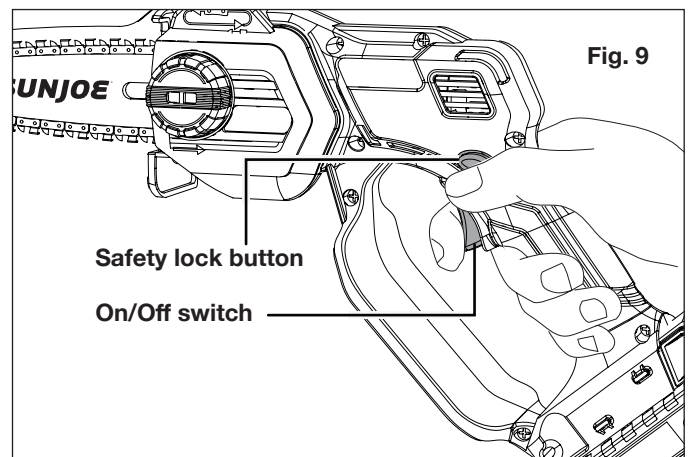

Fig. 9
3. To turn the tool on, hold the pruning saw firmly on the handle grip. Press the safety lock button, and squeeze the ON/Off switch. When the pruning saw is running, you can release the safety lock button (Fig. 9).